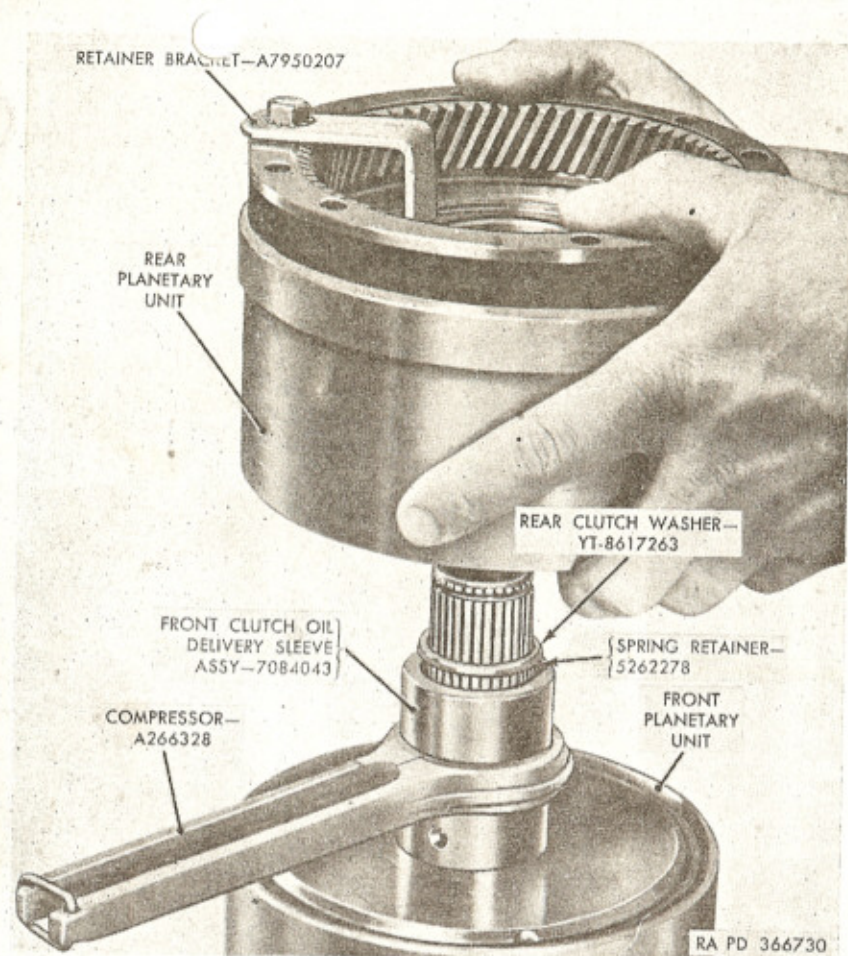

Figure 128. Installing rear planetary unit.
p. Install rear clutch hub retainer bracket—A7950207 (fig. 128) on rear unit drum assembly to hold clutch hub in place. Use one reverse-center-gear-drive-flange-to-rear-drum attaching bolt to hold bracket in place. Refer to figure 128 for view of bracket installed.
f. Install rear clutch hub front spring retainer (fig. 128) in groove of planet carrier assembly.
h. Install compressor—A266328 (fig. 128) over exposed oil delivery sleeve oil seal rings. Latch handles of ring compressor securely.
i. Position rear planetary unit over planet carrier assembly and oil delivery sleeve, bottoming planetary unit against compressor (fig. 128).